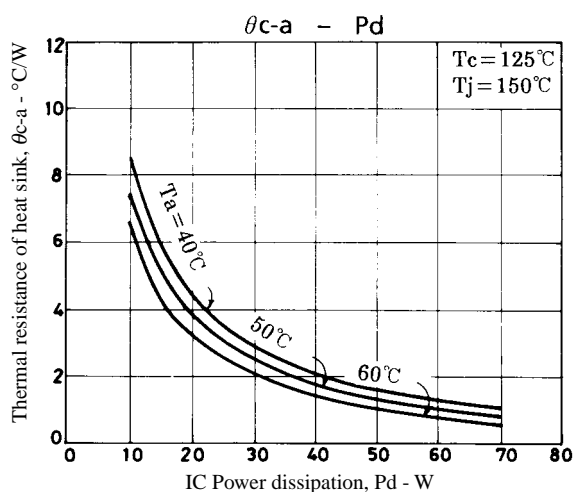

Figure 3. STK4182II θc-a – Pd
Figure 3 shows the relation between Pd and θc-a given from (1) and (3) with Ta as a parameter.
The thermal resistance of a heat sink is obtained from Figure 3.